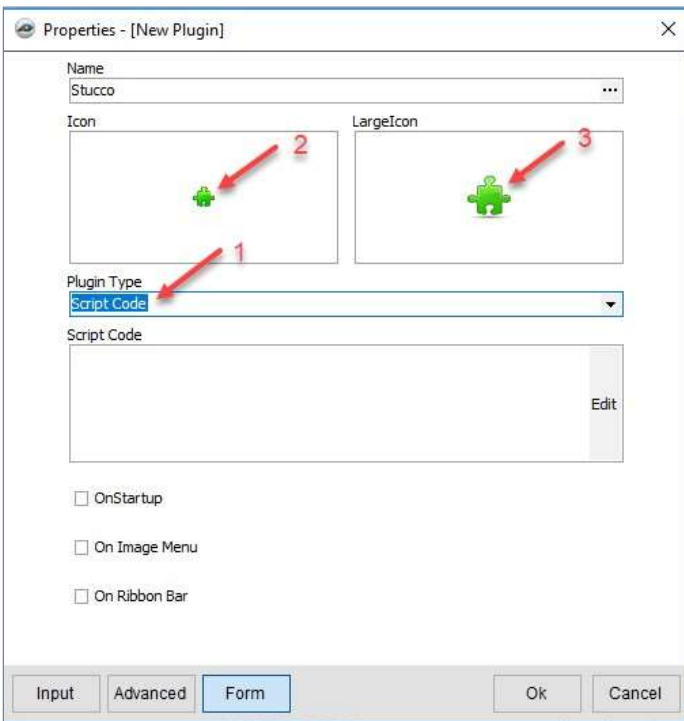

Figure 6
6. The Plugin Type is now displayed as Script Code (arrow 1 in Figure 6). Doubleclicking on the Icon (arrow 1) or the LargeIcon (arrow 2) allows the selection of a small **Icon** or a **LargeIcon**. Double-click on the **LargeIcon** (arrow 3).